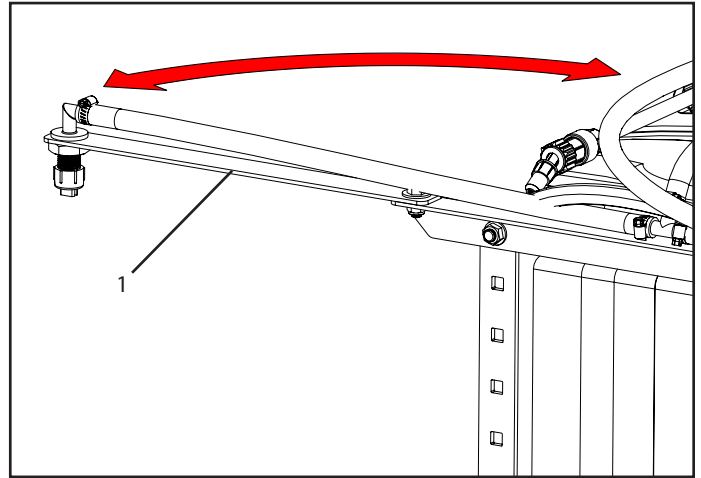

Figure 3: Boom Extension
11. Upon arriving at the spraying location, unfold the boom extensions (1) (Figure 3).